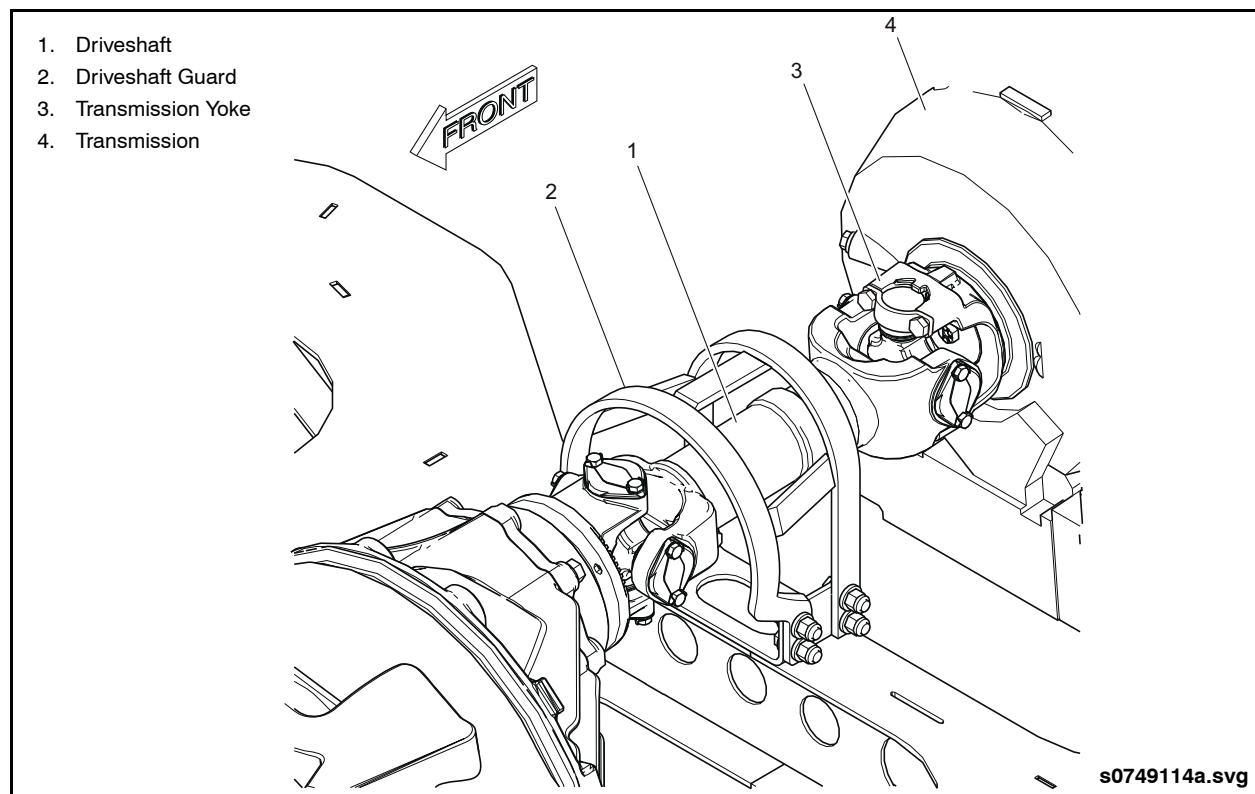

Fig. 4-3: Disconnecting the Driveshaft
11. Underneath the vehicle in the drive unit area, disconnect the driveshaft from the drive unit. Allow the driveshaft to hang onto the rear axle bunk. See "Fig. 4-3: Disconnecting the Driveshaft" on page 6.